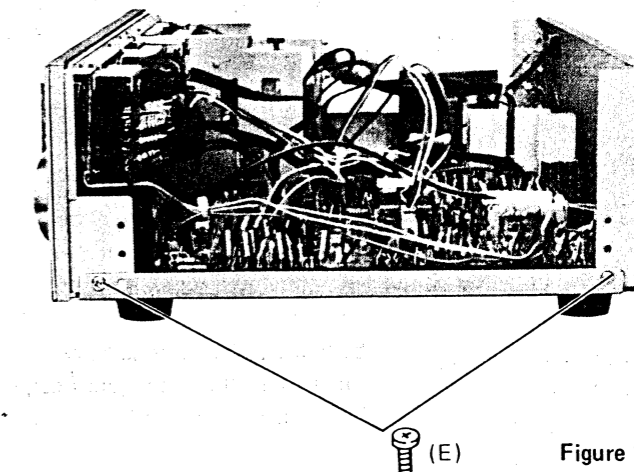

Figure 17
3. Remove two screws (E) from side of the unit. (See Figure 17)